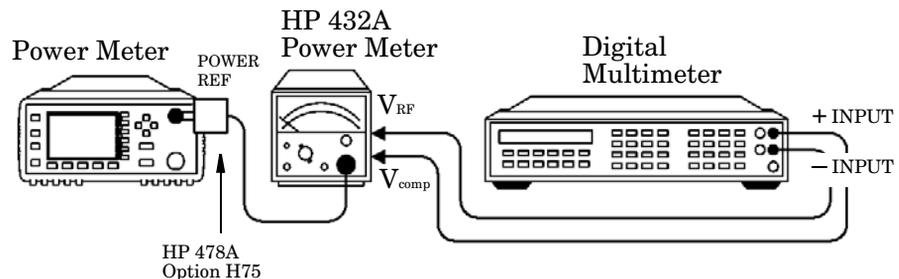

Figure 3-3: Adjustment Setup
2. Round off the DVM reading to two decimal places and record this value as the internal bridge resistance (R) of the test power meter (approximately 200 Ω).
3. Connect the equipment as shown in Figure 3-3. The leads should be isolated from ground. Ensure that the power reference oscillator is off. Ensure that both the power meter under test and the HP 432A have been powered on for at least 30 minutes before proceeding to the next step.